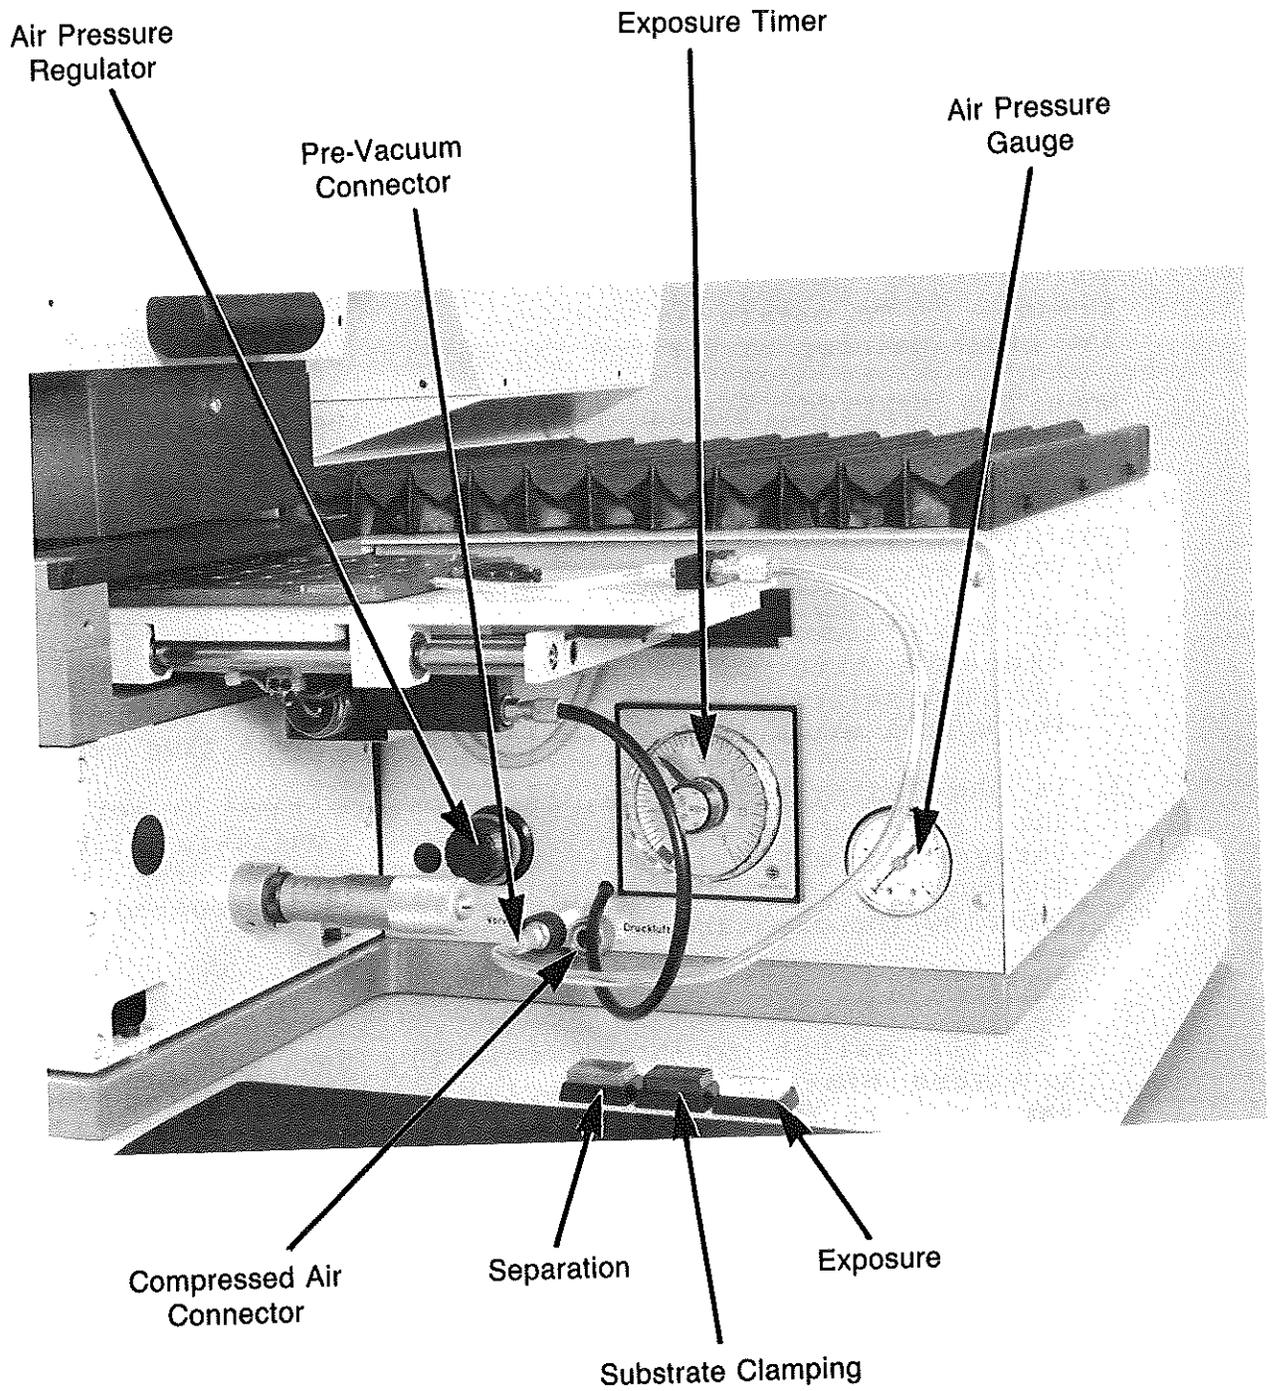

Figure 2-2 Front Right Control Panel
The front right control panel (Figure 2-2) contains the air pressure regulator, the analog timer (or light integrator) and the pressure gauges. Below these are the connections for the chuck pre-vacuum and the compressed air. On the machine base below these are the SEPARATION button, the SUBSTRATE CLAMPING button and the EXPOSURE button. The function of each of these is described in Section 2.1.2.
2.1.2 Front Right Control Panel (Please refer to Figure 2-2.)